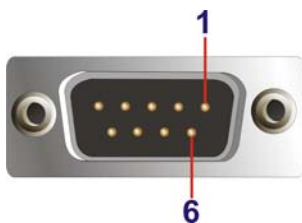

Figure 3-35: RS-232 Serial Port
- CN Pinouts:** See Table 3-7 and Figure 3-35